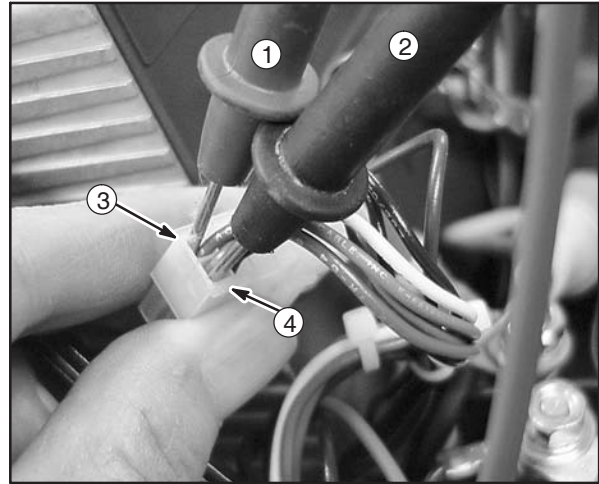

Fig. 43
6. Insert Red meter test lead (1) into to #1 pin (2) in harness connector (red wire), Fig. 43.
7. Insert Black meter test (3) lead into #9 pin (4) in harness connector (brown wire).